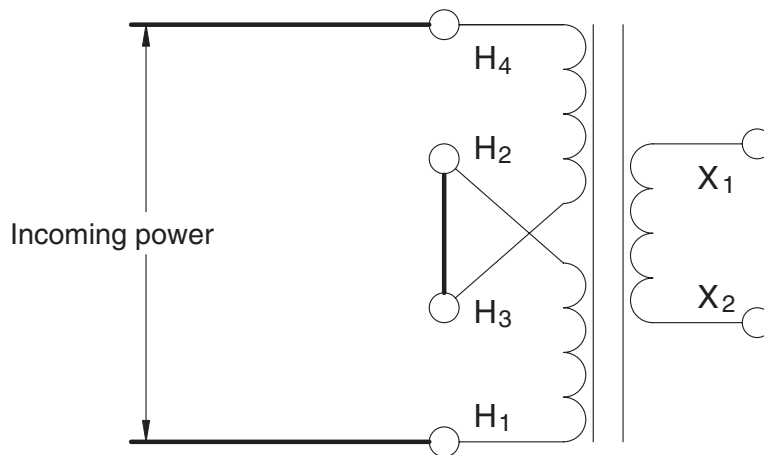

Figure 19-10 High-voltage windings connected in series.
When this transformer is operated with 480 volts connected to the primary, the high-voltage windings are connected in series by connecting H_2 to H_3 and connecting power to H_1 and H_4 , as shown in Figure 19-10. This effectively doubles the primary turns, providing a 4:1 turns-ratio with the low-voltage winding.
9. Disconnect the wires connected to the transformer and reconnect the transformer as shown in Figure 19-10. The two high-voltage windings are connected in series by connecting H_2 and H_3 together. This connection changes the turns-ratio of the transformer from 2:1 to 4:1. Make certain that the incoming power is connected to terminals H_1 and H_4 .